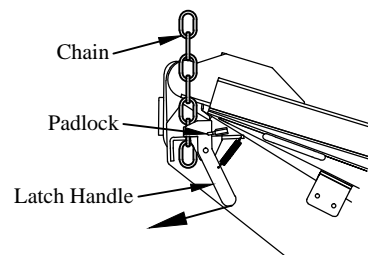

Figure 9: Steps 16 and 17.
- Step 16. Latch the liftgate by pulling on the latch lever, engaging the latch chain into the latch, and then releasing the latch lever (Figure 9).
- Step 17. Always install the padlock on the latch and deactivate the control when not in use (Figure 9).